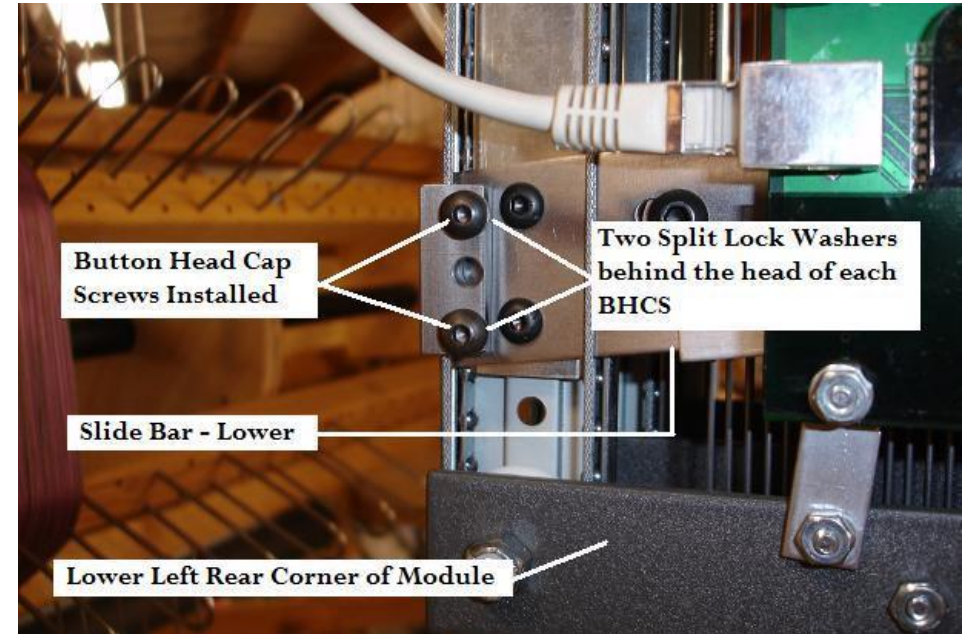

Figure 2 – After Hardware Change
3. Replace each with one new BHCS and two new Split Lock Washers (see Fig. 2, below).